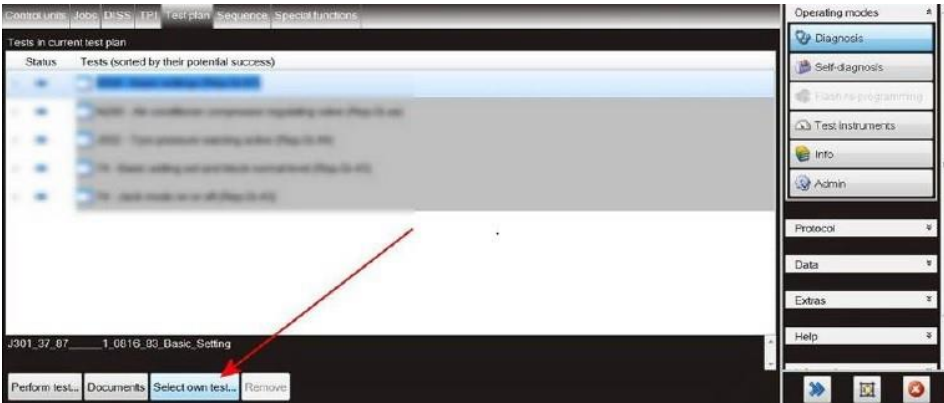

Figure 3
- Referring to Figure 3 - Navigate to Test plan - Select own test